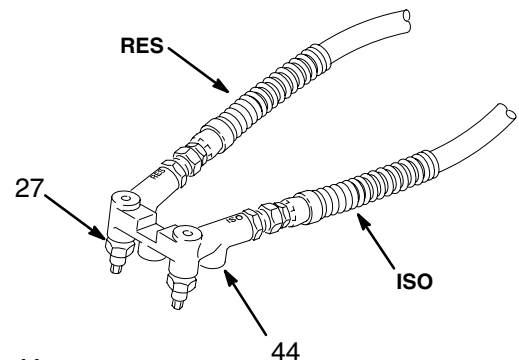

Fig. 11
1. The manifold (27) has four inlet ports; two ports are plugged with steel plugs (44). Relocate the plugs to route the hoses straight down from the manifold, if desired. See Fig. 11.